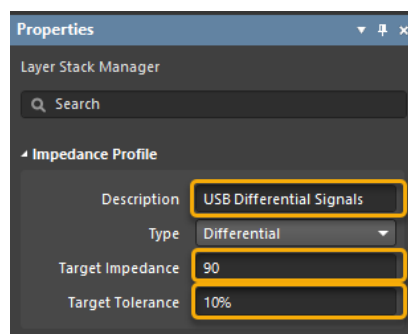

Figure 14. Target Impedance
38. Dock the LSM *Properties* panel on the left, if not already docked, and enter the following information, Figure 14: